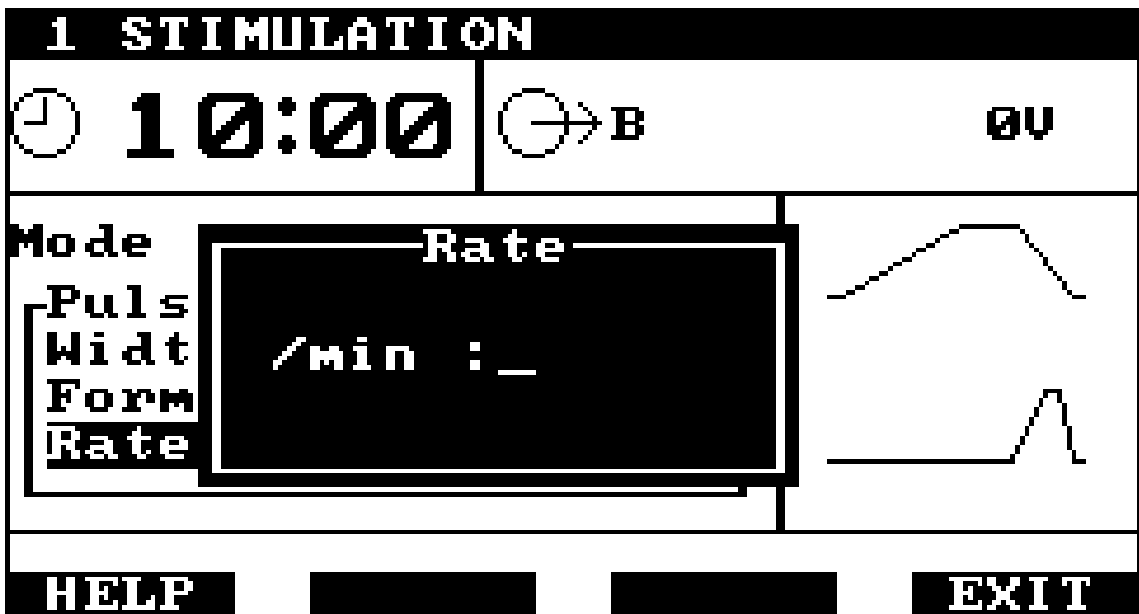

Figure 24 - Setting the pulse rate
19. **Rate:** The pulse rate is entered in exactly the same way as the surge rate in sinusoidal and faradic modes. Figure 24 shows the rate sub-window for interrupted galvanic pulses.